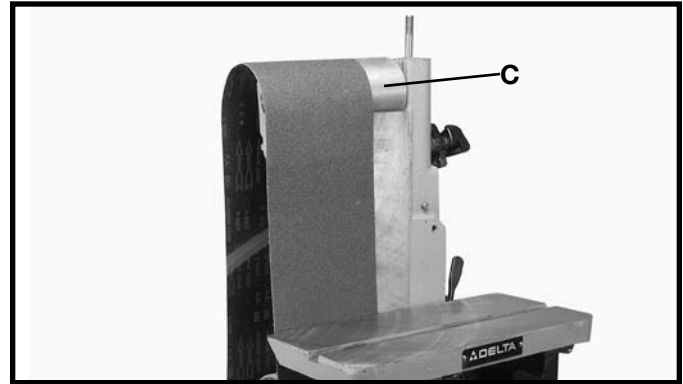

Fig. 21
2. Turn the belt tension handle counterclockwise to reduce belt tension to a minimum. **NOTE:** It may be necessary when reducing belt tension that downward pressure be applied on the idler pulley (C) Fig. 21.
3. The sanding belt can then be easily slipped off or onto the drums, as shown in Fig. 21.